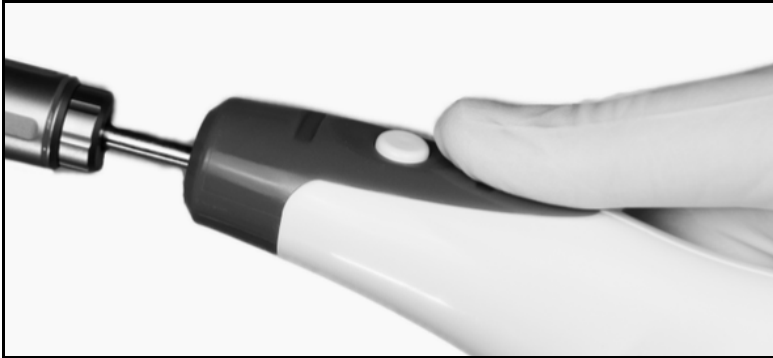

FIGURE 6: ASPIRATION BUTTON TO CLEAR THE FIELD OF VIEW
2. Press the aspiration button located on the thumb rest (figure 6) to momentarily increase suction to facilitate clearing the field of view.